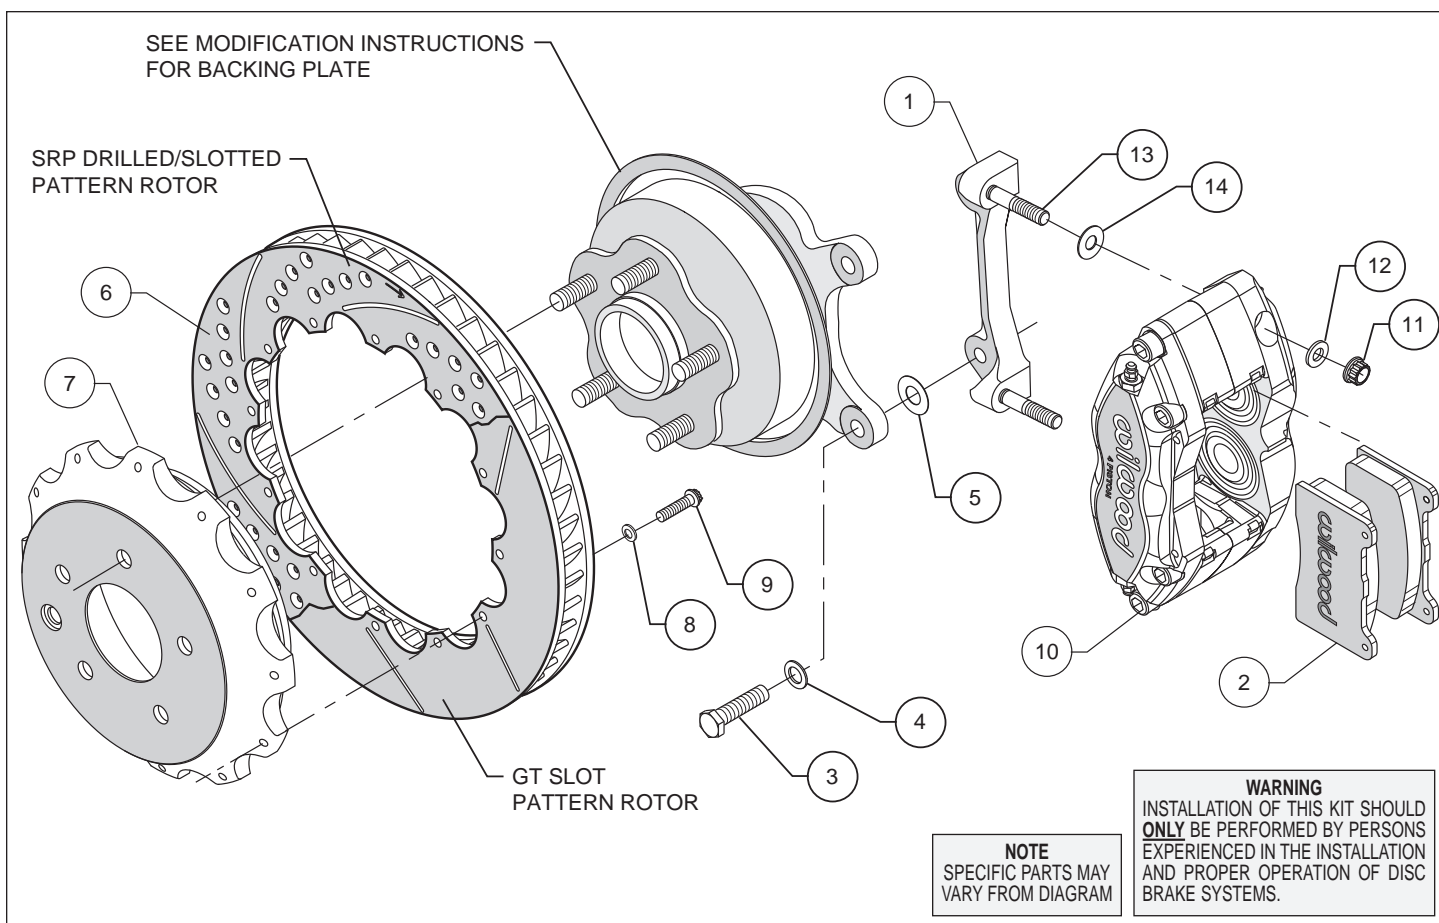

Figure 1. Typical Installation Configuration
- The caliper mount bracket assembly (1) should be installed first with clean, dry threads on the mounting bolts. Install the bracket from the rear side of the hub by sliding bolt (3) through washer (4), and through the OEM caliper mounting bracket ears, then through shim washer (5) and into the bracket (1). The bracket must tighten squarely against the inboard side of the caliper mount bosses on the upright. Inspect for interference from casting irregularities, machining ridges, burrs, etc. Use one thin shim (5) between the bracket and upright during initial trial fitting. Later, after the caliper, pad, and rotor alignment has been checked, and any necessary shims have been put in place, the mounting bolts should be coated with red *Loctite*® 271 and torqued to 60 ft-lbs.
- Assemble the rotor (6) to the hat (7) with the bolts (9) and washers (8) as indicated in the configuration pictured in Figure 1. Using an alternating sequence, apply red *Loctite*® 271 to the threads and torque bolts to 140 **in-lb**. For an added measure of security, the bolts may be safety wired using standard 0.032 inch diameter stainless steel safety wire as shown in Figure 3. Please refer to Wilwood's data sheet DS-386 (available at [www.wilwood.com/Pdf/DataSheets/ds386.pdf](http://www.wilwood.com/Pdf/DataSheets/ds386.pdf)) for complete safety wire installation instructions.
- Install one shim (14) over each stud (13) on the radial mount bracket (1). Slide the caliper (10) in place over the studs and rotor and install the washer (12) and lock nut (11) to hold the caliper in place. Snug the lock nuts (11) and check that the rotor (6) is centered in the caliper (10). Add or subtract .015" shims (5) as necessary between the caliper mount bracket (1) and the caliper mount bosses on the upright assembly to center the caliper.